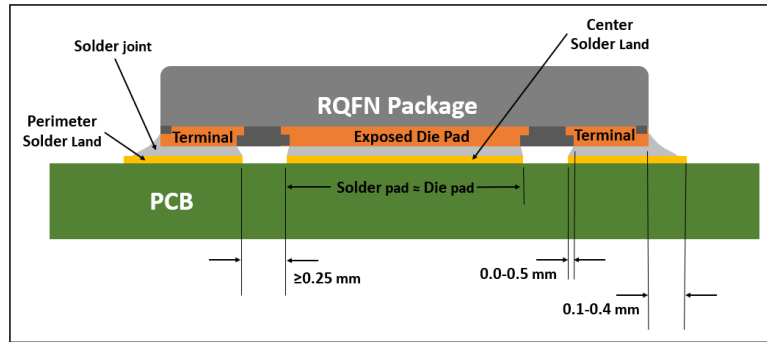

Figure 18: Solder Land Dimensions (Cross-section View)
- The center solder land should have approximately the same size and shape as the component's exposed die pad for optimal thermal and electrical performance. However, the outer edges of the center solder land should have a minimum clearance of at least 0.25mm from the inner edges of the perimeter solder lands to avoid any shorts (**Figure 18**).
- The length of the perimeter solder land should extend by ≤ 0.05 mm towards the center of the package and 0.01-0.04mm from the package edge (**Figure 18**).